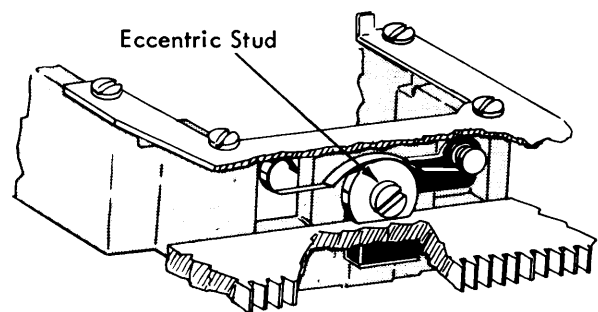

FIGURE 74. Carrier Shoe - New Style
- b. Carrier Shoe (New Style) - Adjust the upper carrier shoe eccentric mounting stud to provide .002" to .006" vertical motion of the carrier at the rear (Fig. 74) when the spring load on the upper shoe is suppressed.